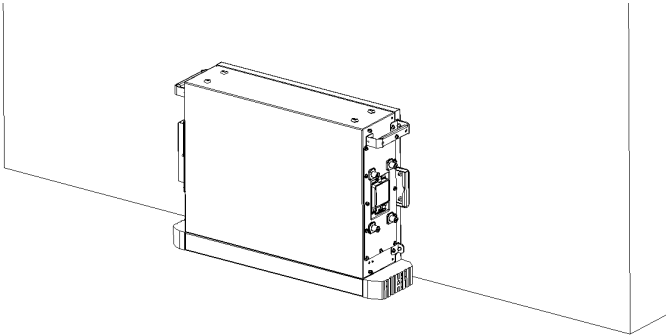

Figure 7: Battery Module Installation
2. Stack one battery module on top of the bottom base. The side with visible screws should be facing the wall, as shown in Figure 7 below.